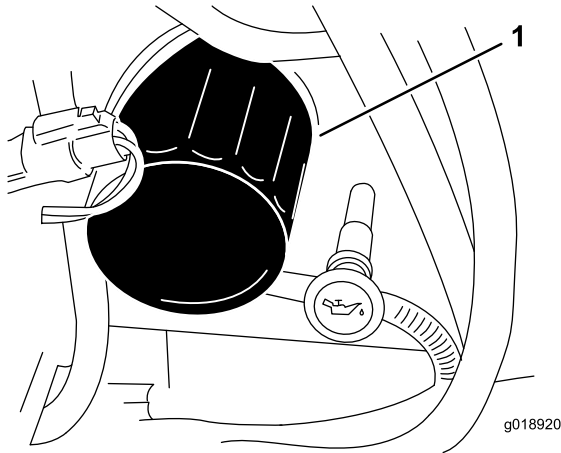

Figure 31
3. Remove the old filter (Figure 31) and wipe the surface of the gasket seal on the filter head.